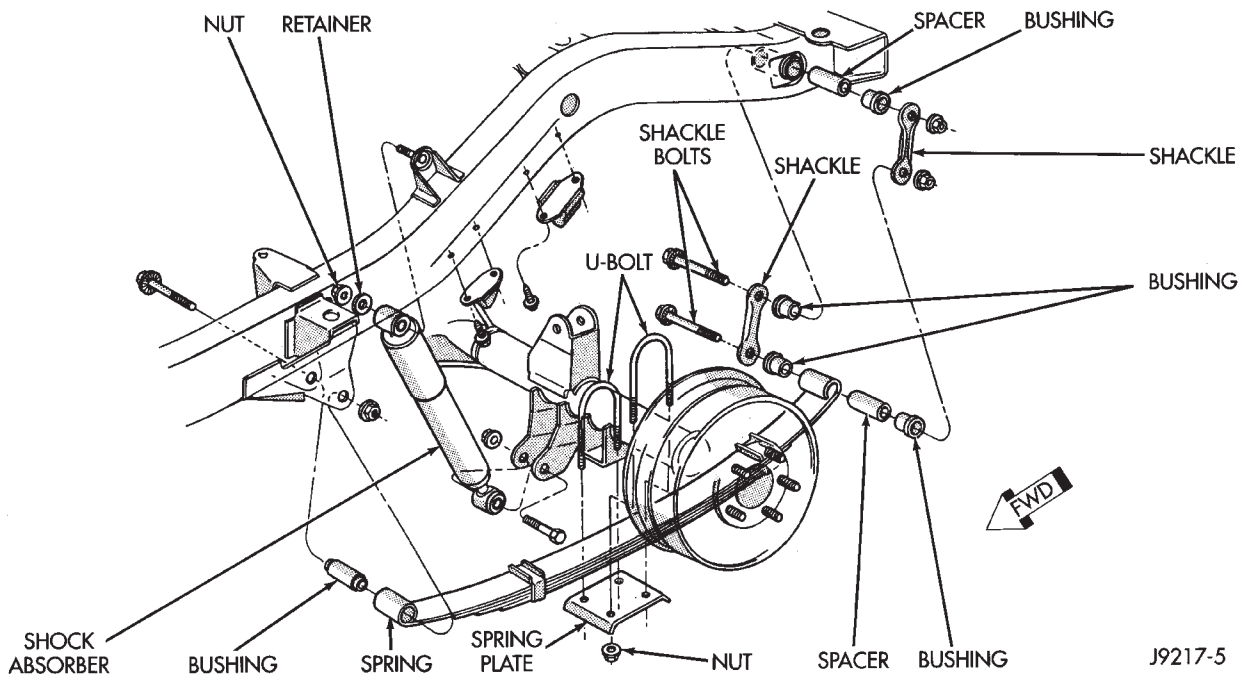

Fig. 1 Spring & Shock Absorber—YJ Vehicles
- (1) Remove the upper attaching nut and washer from the frame bracket stud (Fig. 1).
- (2) Remove the lower attaching nut, washers and bolt from the axle bracket. Remove the shock absorber (Fig. 1).
- (1) Position the shock upper eye on the frame bracket stud. Install the washer and nut (Fig. 1).
- (2) Position the shock lower eye in the axle shaft tube bracket. Install the lower attaching bolt, washers and nut (Fig. 1).
- (3) Tighten the upper and lower shock bolts to 61 N·m (45 ft. lbs.) torque.
- (1) Raise the vehicle at the frame.
- (2) Use a hydraulic jack to relieve the axle weight.
- (3) Remove the wheel and tire.
- (4) Remove the nuts, the U-bolts and spring bracket from the axle (Fig. 1).
- (5) Remove the nut and bolt that attaches the spring rear eye to the shackle (Fig. 1).
- (6) Remove the nut and bolt from the spring front eye (Fig. 1).
- (7) Remove the spring from the vehicle.
- (1) Position the spring front eye in the bracket. Loosely install the attaching bolt and nut (Fig. 1). Do not tighten at this time.
- (2) Position the rear eye in the shackle bracket. Loosely install the attaching bolt and nut (Fig. 1). Do not tighten at this time.
- (3) Align the rear spring center bolt with the locating hole in the rear axle spring pad.
- (4) Lower the rear axle until it is completely supported by the spring.
- (5) Position the axle. Install the spring bracket, U-bolts and nuts (Fig. 1). Tighten the U-bolt nuts to 122 N·m (90 ft. lbs.) torque.
- (6) Remove the hydraulic jack.
- (7) Remove the support stands and lower the vehicle.
- (8) Tighten the spring shackle plate bolts and front spring eye bolt to 135 N·m (100 ft. lbs.) torque.